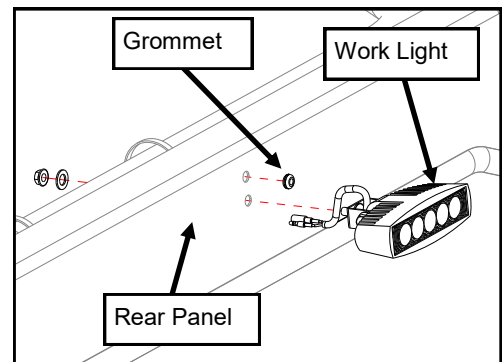

Fig. 1.2
- 1.2 Install rear work light into lower hole. Secure with steel washer and locknut on the inside of rear panel. **IMPORTANT: orient the light with the wire on the underside so that any condensation that forms in the light can drain correctly.** (See Figure 1.2)